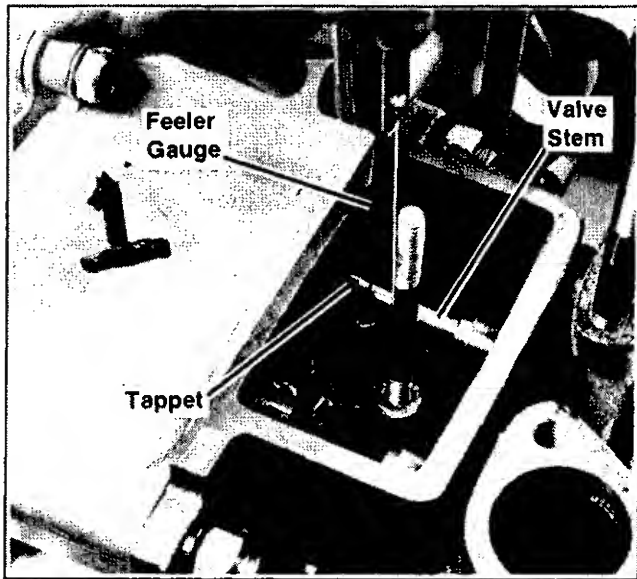

Figure 8-27. Checking Valve Clearance
- Rotate camshaft to position where cam has no effect on tappets—hold valve firmly on seat and check clearance between valve stem and tappet. Intake valve clearance (cold) should be between .003" and .006", and exhaust valve clearance (cold) is between .011" and .014" (see Figure 8-27). If clearance is insufficient, grind end of valve stem until correct clearance is attained. Make sure stem is ground perfectly flat.